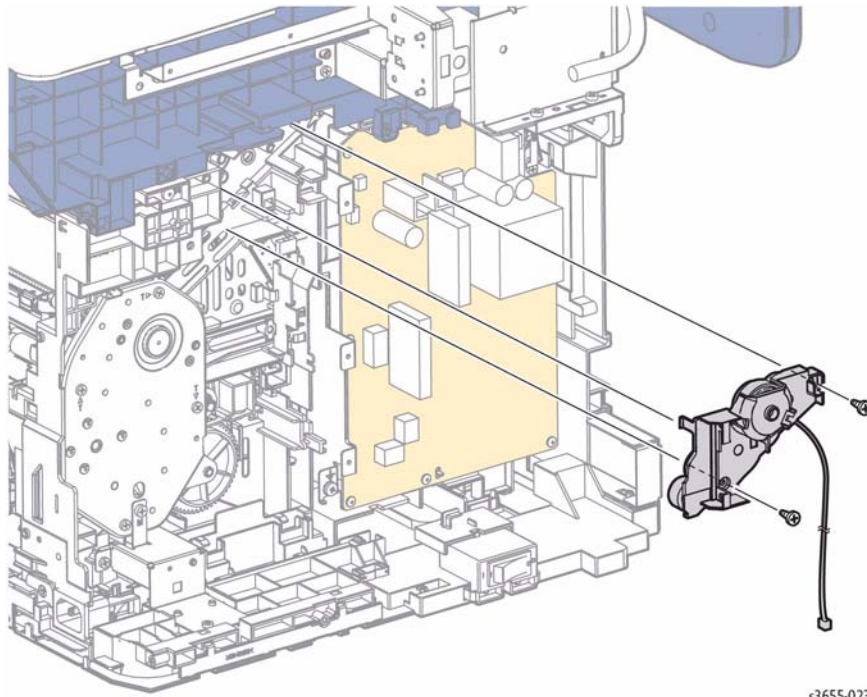

Figure 4 Remove the Exit Drive Assembly
14. Refer to Figure 4 to locate and remove 2 screws (silver, tapping, 8mm) and release 1 hook that secures the Exit Drive Assembly.